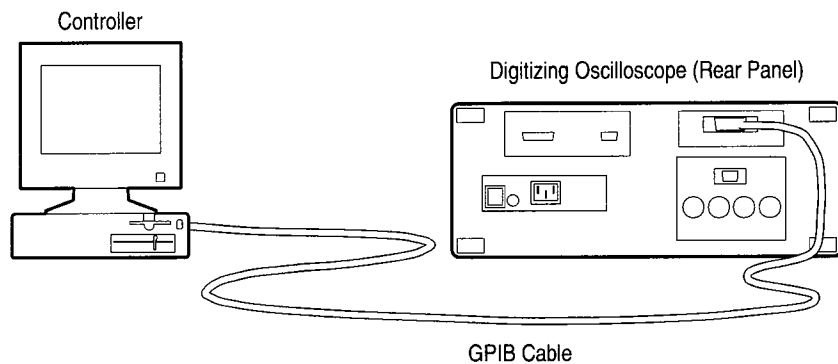

Figure 1: PC & TDS Setup
1. Attach an IEEE Std 488.1-1987 GPIB cable (available from Tektronix as part number 012-0991-00) to the 24-pin GPIB connector on the rear panel of the TDS, as shown in Figure 1.